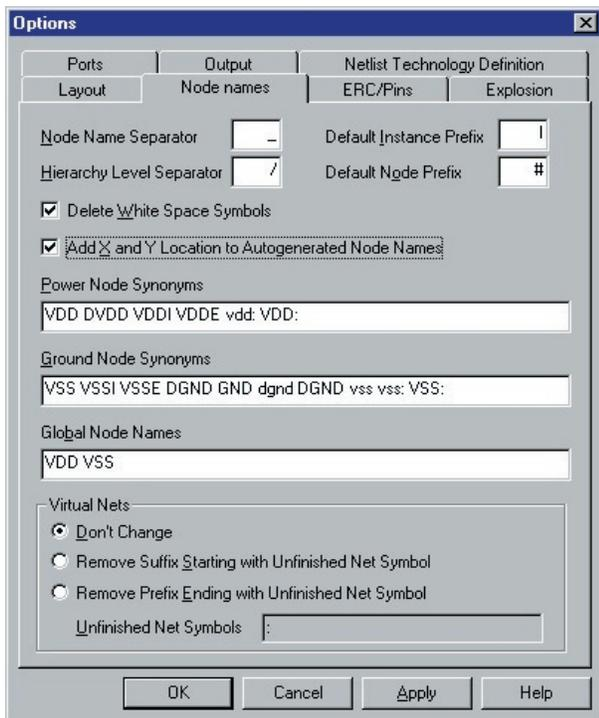

Figure 2. Node Names Options Page.
HIPEX-Net extracts text from the layout and uses it to: (1) assign names to nodes in the output netlist and (2) check for opens and shorts in the layout. *HIPEX-Net* follows a set of rules when processing layout text for node names. For example, global text always takes precedence over local text. You can fine tune node naming in the Node Names page of the Options dialog (see Figure 2).